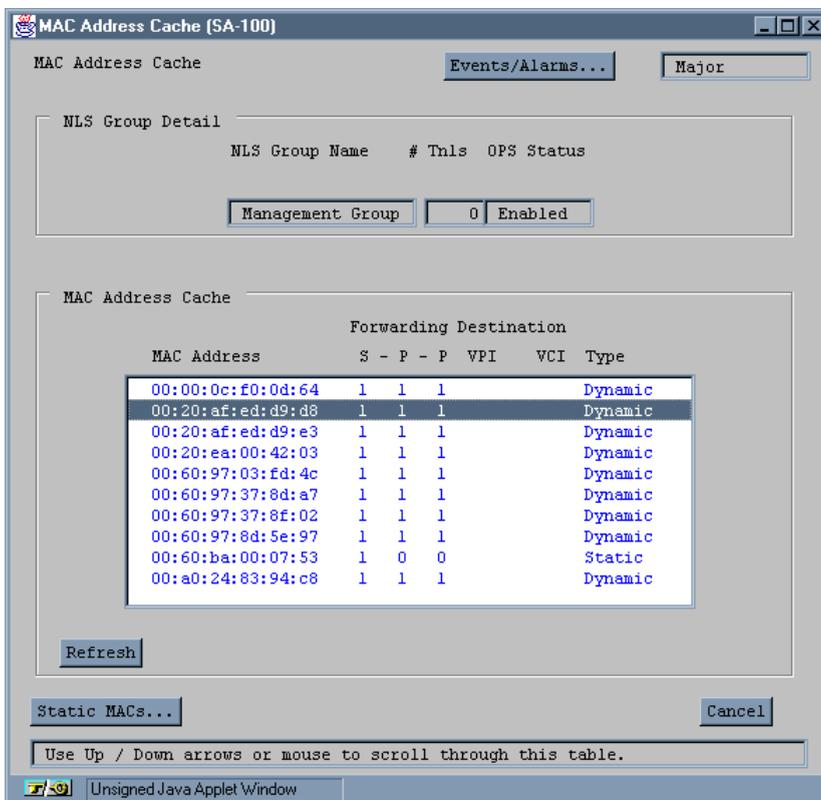

Figure 5-14. MAC Address Cache Window
2. Choose the MAC button. The MAC Address Cache window appears (Figure 5-14):